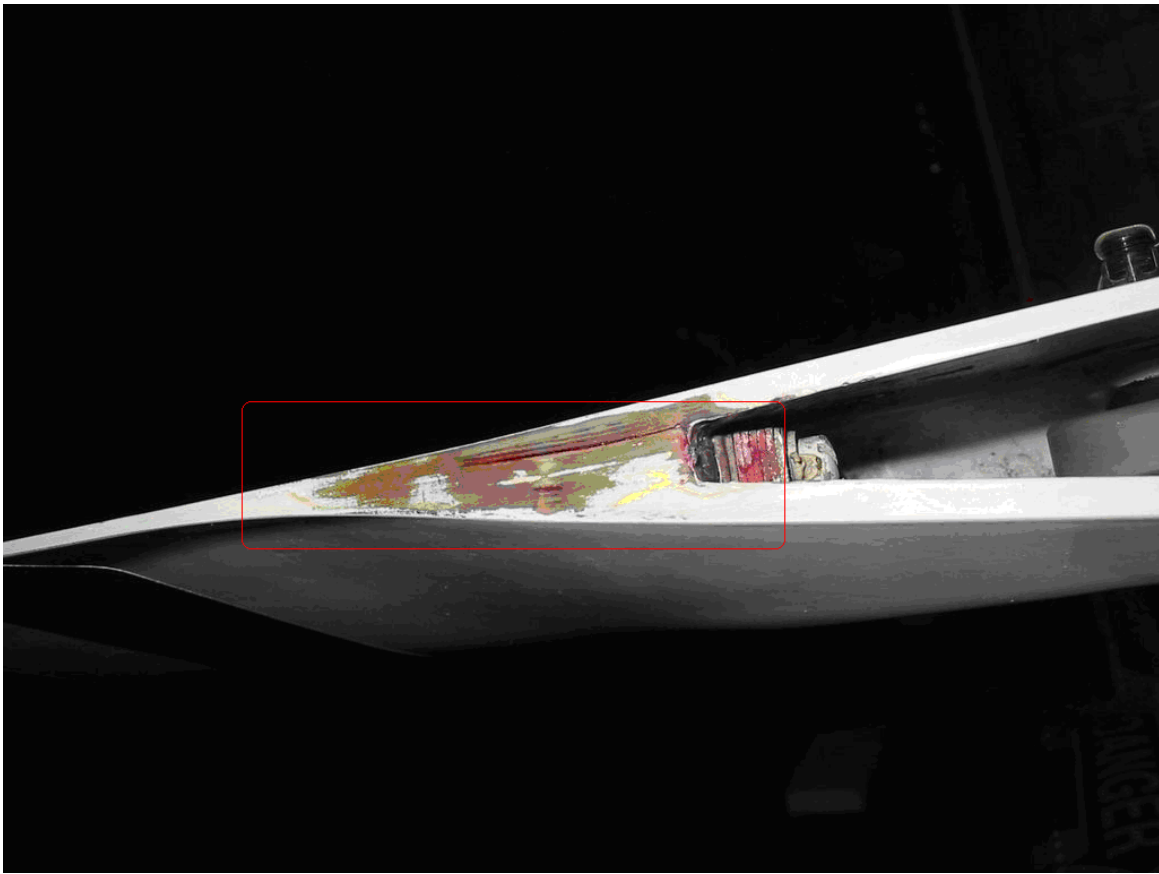

Figure 1. Blade area to be inspected
1. Use detergent (C-318) and thoroughly clean the tail rotor blade in the area to be inspected. Refer to Figure 1.